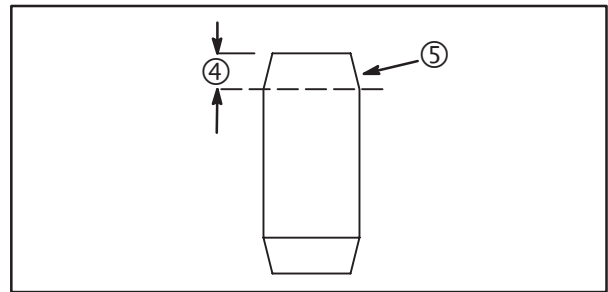

Fig. 12
4. Grind off the taper (5), approximately 1/8" (3 mm) (4), from one end of new roll pin as shown, Fig. 12.